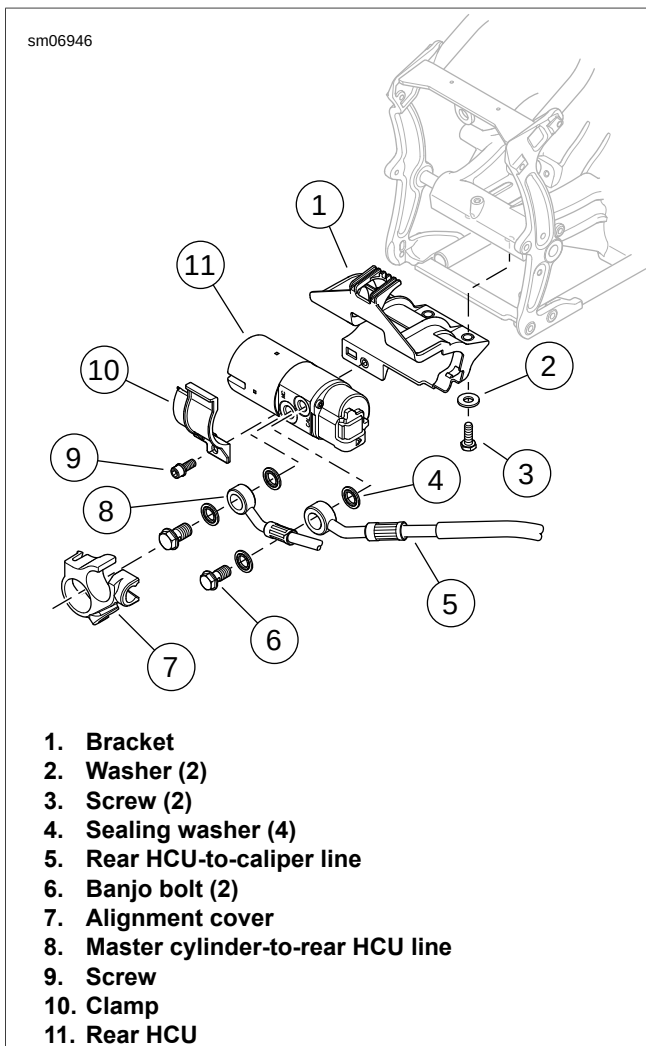
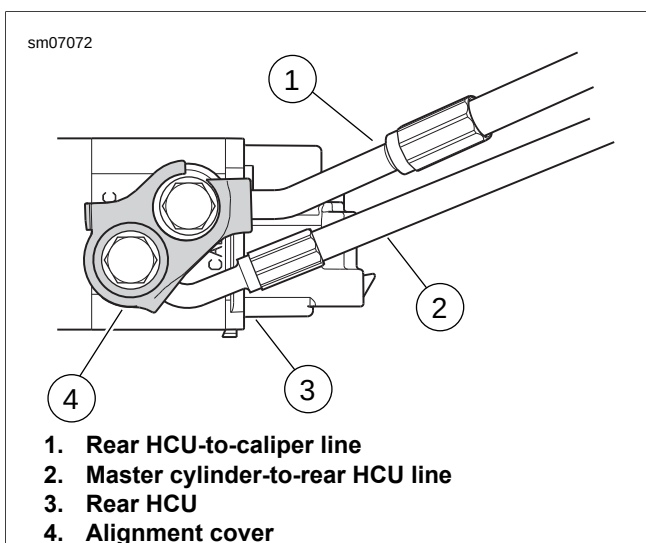
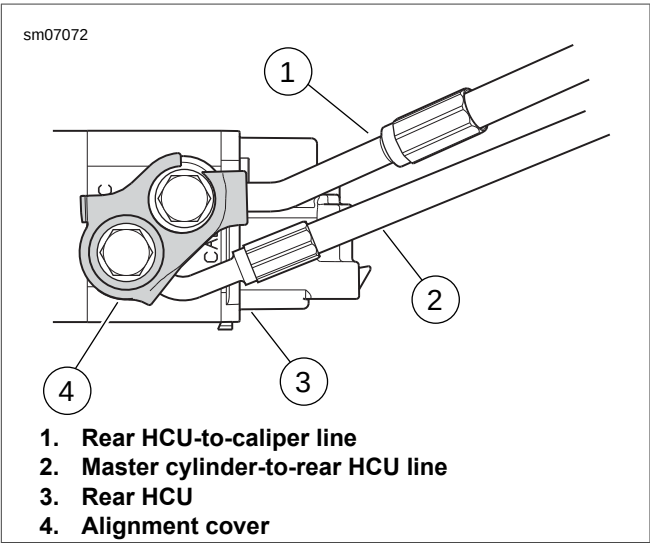

Figure C-18. Rear Hydraulic Control Unit (HCU)
Figure C-19. Rear HCU Fittings Properly Installed
Figure C-21. Rear HCU Fittings Properly Installed
5. See Figure C-18. Remove alignment cover (7).
6. Remove banjo bolt from master cylinder-to-rear HCU line (8). Discard sealing washers.
3. See Figure C-18. Start banjo bolt with **new** sealing washers to secure brake line (8) to HCU.
4. Install alignment cover (7).
5. See Figure C-19. Verify both brake lines at rear HCU are properly positioned.
4. See Figure C-18. Remove alignment cover (7).
5. Remove banjo bolt to release rear HCU-to-caliper line (5) from HCU. Discard sealing washers.
1. See Figure C-18. Start banjo bolt with **new** sealing washers to secure brake line (5) to HCU.
2. Install alignment cover (7).
3. See Figure C-21. Verify both brake lines at rear HCU are properly positioned.